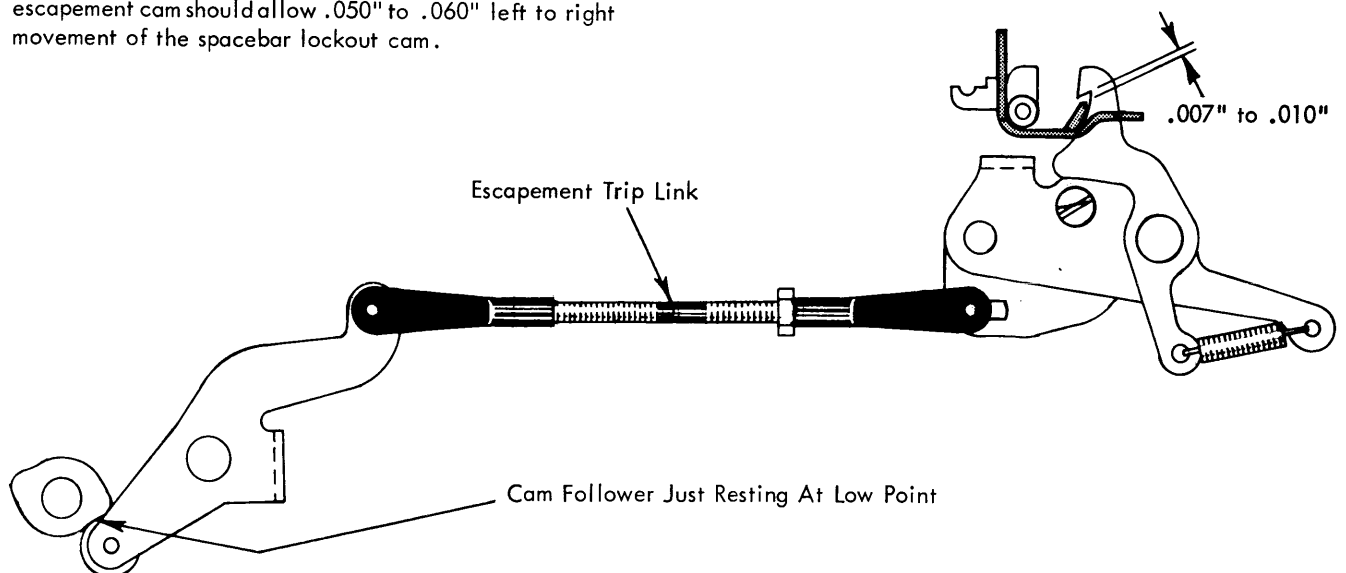

FIGURE 100. Escapement Cam And Link Adjustment
6. Escapement Cam - Adjust the cam by rotating it on the filter shaft so that the cam follower roller just reaches the low point of the cam at the rest position (Fig. 100).
7. Escapement Trip Link - Adjust the trip link so that a clearance of .007" to .010" exists between the torque bar lug and the hook of the escapement trigger in the rest position (Fig. 100).